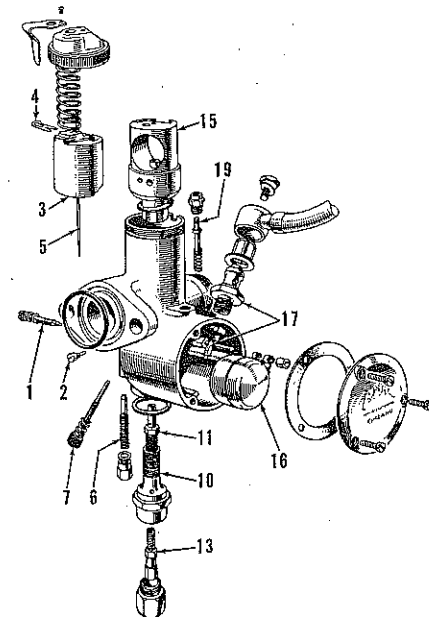

Fig. TM1-1—Exploded view of Amal carburetor typical of that used on T20 and T20C models.
Refer to Fig. TM1-1
- Main jet (13) ..... 84
- Idle jet (9) ..... 45
- Starter jet (8) ..... 200/65
Idle speed is controlled by stop screw (7—Fig. TM1-1, TM1-2 or TM1-3). Idle mixture is adjustable on Amal carburetors by turning the pilot air screw (6—Fig. TM1-1 or TM1-2). Normal setting for idle mixture screw (6) is 2½ turns open.